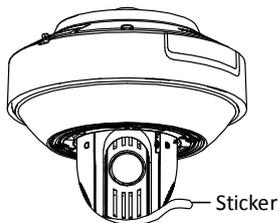

Figure 1-10 Remove the Sticker
2. Remove the protective foam, sticker and lens cover from the camera drive. As shown in Figure 1-10.